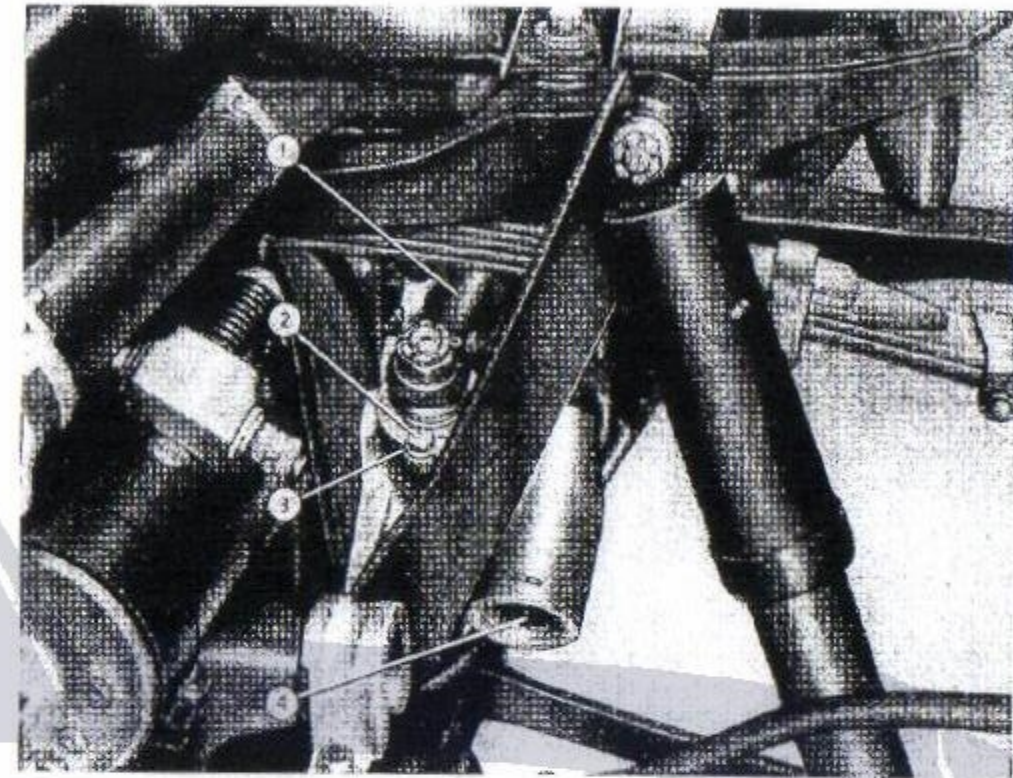

Fig. 43. - Taking up the play between steering worm and worm sector.
- Unscrew the screw (2, Fig. 43), holding the adjusting plate, turn the eccentric bush by means of the adjusting plate, so as to bring the sector nearer to the worm, and at such an angle as to make it possible to fix the adjusting plate again through the second hole.
Play in the roller bearings of the worm is taken up by means of the cap situated on the end of the steering box (4, Fig. 43). Both adjustments should be made in such a manner as to eliminate all play in the steering column, without making the steering too stiff.